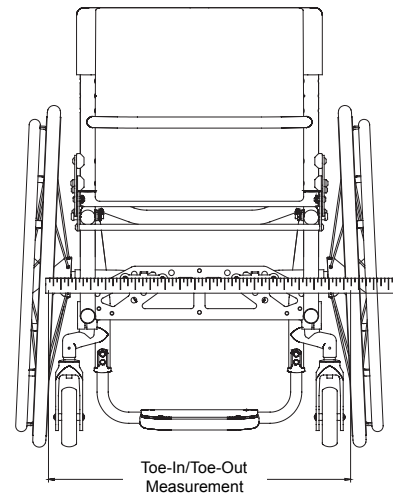

Figure 84
8. Measure the distance between the left and right tires at the rear reference marks made in step 6. See Figure 84.